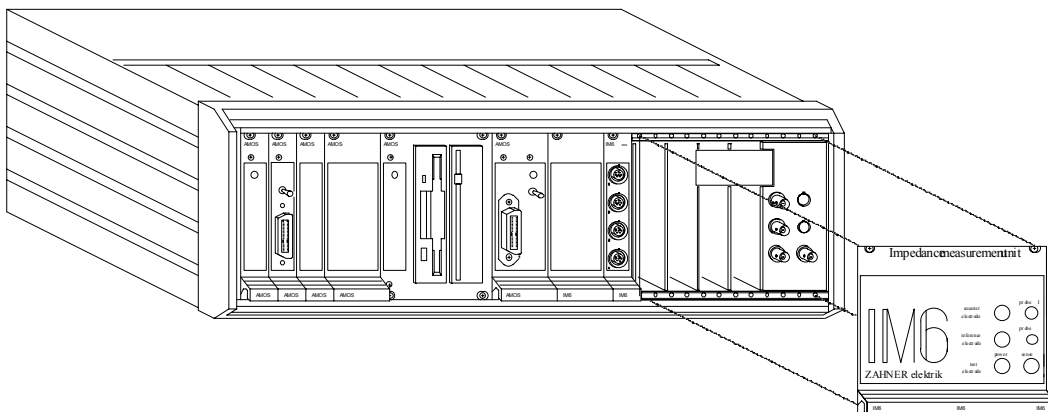

Figure 1: Removal of front plate
2. Remove the front panel by opening the 4 screws of the right most plate named "IM6(e)" (Fig1).